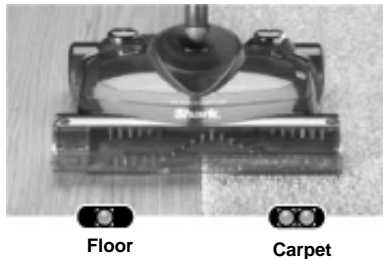

Fig. 10
- To change the speed of the brush roll, press the speed control button once. One light "On" indicates the unit is on the optimal speed for cleaning hard floors. Two lights "On" indicate the unit is on the optimal speed for cleaning carpets. (Fig. 10)